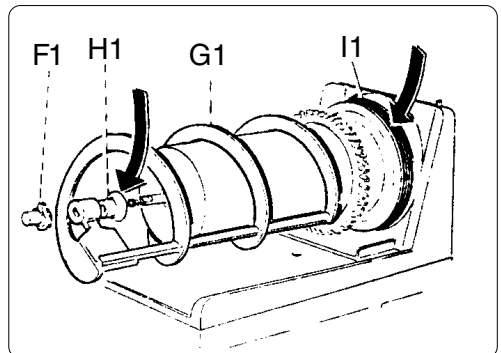

Fig. 37
- l) To re-assemble the mixer unit, proceeding as follows (fig. 37):